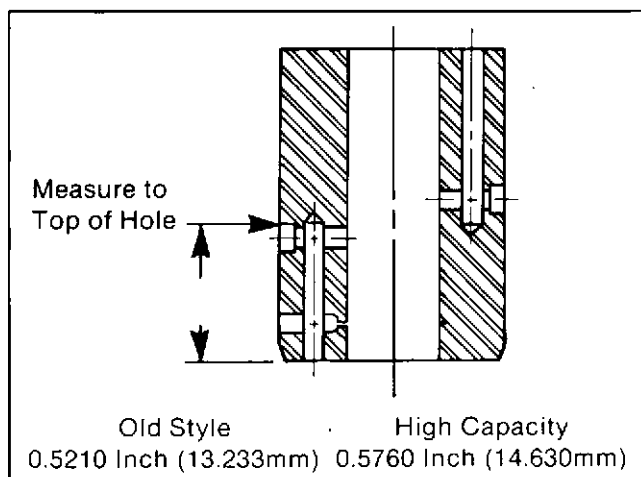

Fig. 2-17, (F60298). Injector barrel fuel holes
6. The high capacity barrel feed and drain holes are about 0.050 to 0.065 inch [1.27 to 1.65 mm] higher in the barrel, Fig. 2-17. Do not mix standard and high capacity injector barrels in the same engine.